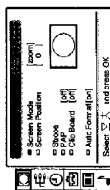

Fig. 36
- 2 Select the symbol **[PAP]** for «Screen Mode» with **[Δ+]** or **[V-]** and press OK. The SCREEN MODE menu appears (See Fig. 36). You have the choice among the following modes: